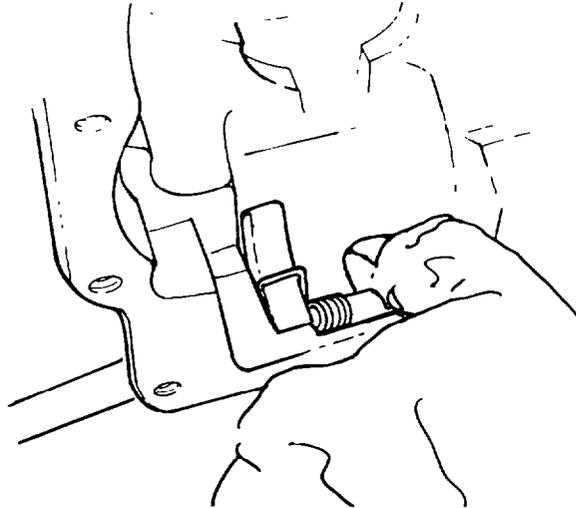

Fig. 100 — Assembling Shutoff Shaft
- If the lubrication duct plug (item 46) was removed, apply "Loctite 242" to the threads of the housing (item 7) and screw the plug in until seated. Torque the plug to 8.5 – 9 Nm (75 – 80 lb.in.).
- If the supply pump mounting studs (items 8) need replacement, re-tap the housing (.250 in. – 20 UNC – 2B thread) to a depth of 15.2 – 15.8 mm (0.60 – 0.625 in.), clean out, apply "Loctite 271" to the housing and stud thread, and install a new stud projecting 14.5 mm (0.571 in.) from housing.
- When replacing the oil seal (item 55), clean out the bore, apply "Locquic T" primer and "Loctite 271" to O.D. of the seal, and press in until seated. The sealing lip must face inwards.
- i. Install the shutoff shaft (item 56) into the seal (item 55), stop lever (item 57) and spring (item 58) and through to the bore opposite the seal as shown in fig. 100.